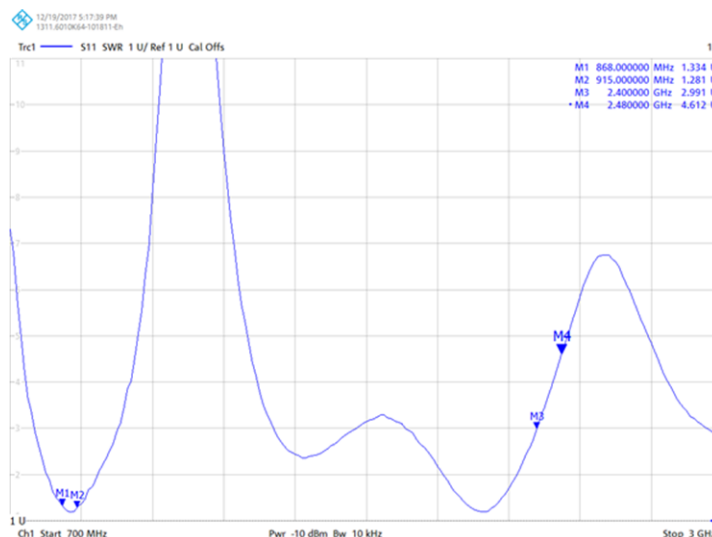

**Figure 16. Matching the High-Band With an Ideal Value of  $L_{\text{HIGH}}$ : 2.2 nH and  $C_{\text{HIGH}}$ : NC**
- $L_{\text{HIGH}}$ : 2.2 nH and  $C_{\text{HIGH}}$ : NC; see Figure 16